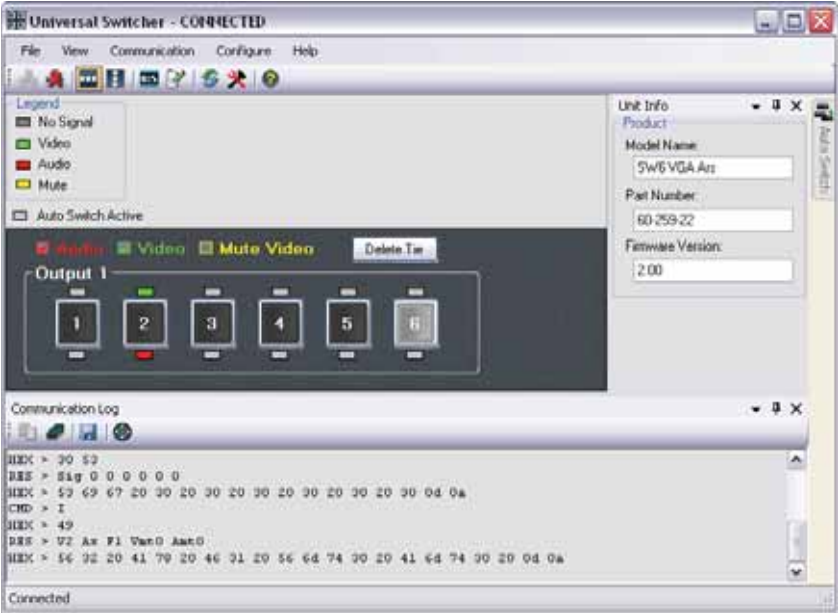

Figure 4-4 — Universal Switcher Control program window
3. The Extron Universal Switcher Control Program window (figure 4-4) displays the input signal status for each input (signal present or not present) and the selected input.
In figure 4-4: